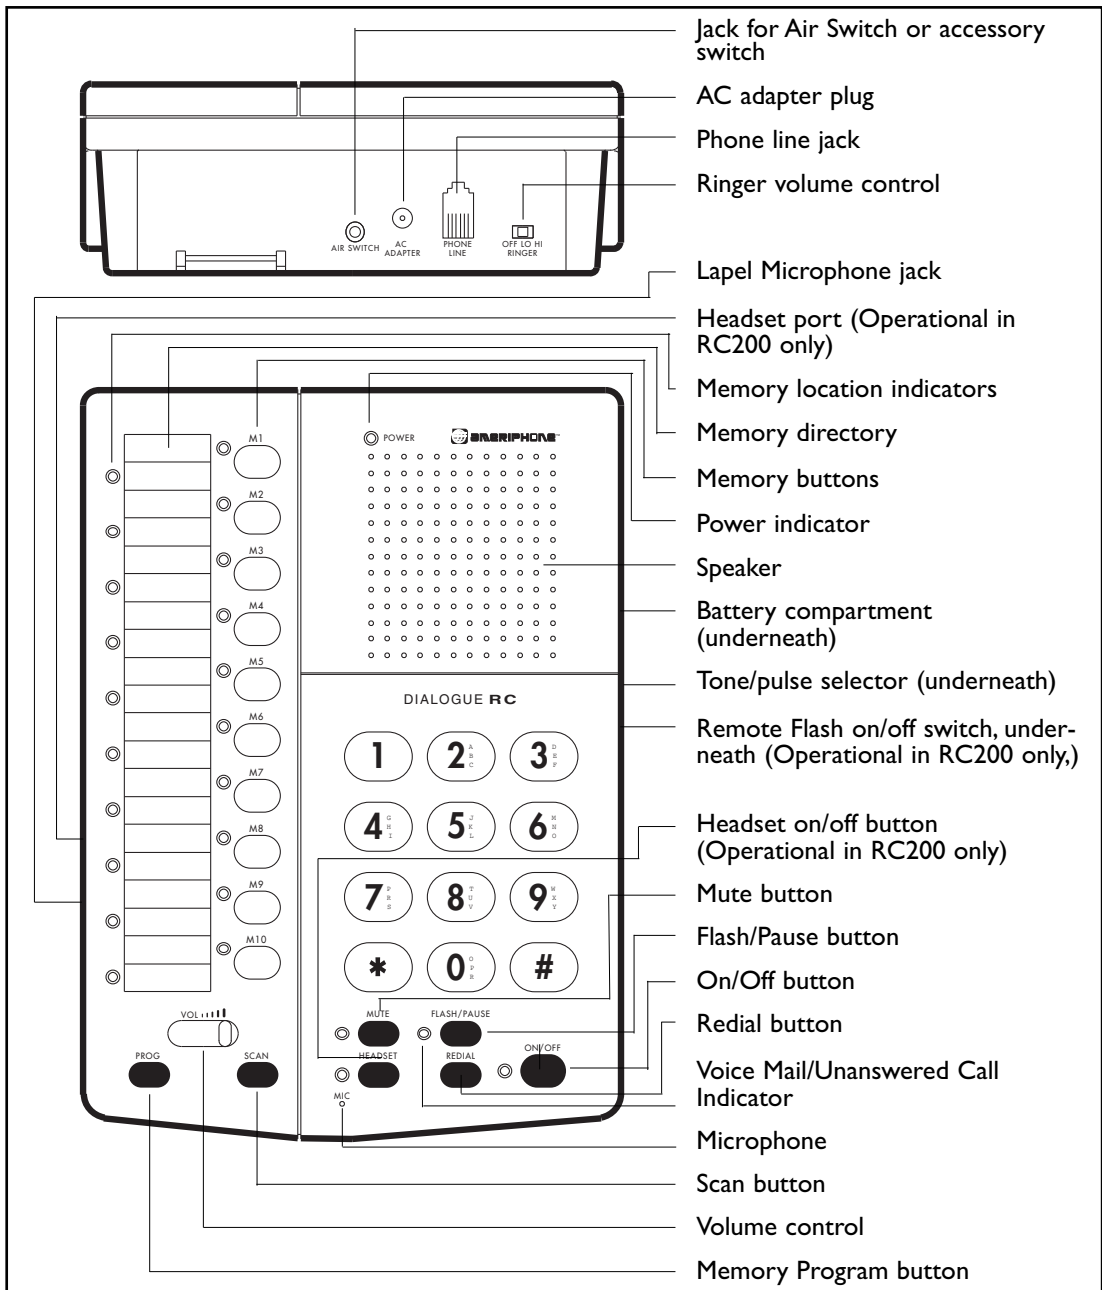

Figure 2 – Features Identification
2. Set the tone/pulse selector (T/P) to T if you have touch tone service, set to P if you have pulse dialing (rotary). (See Fig 2)